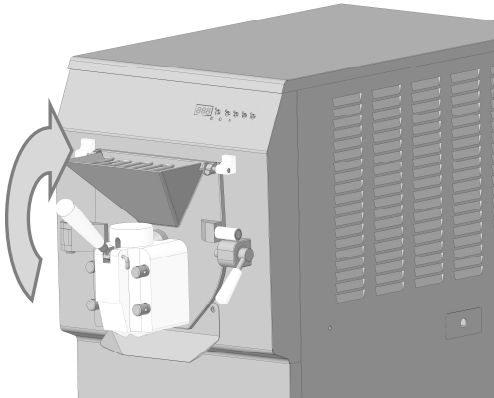

Fig.1
- Check that the door dispenser disk is assembled properly and in closed position (Fig.1).